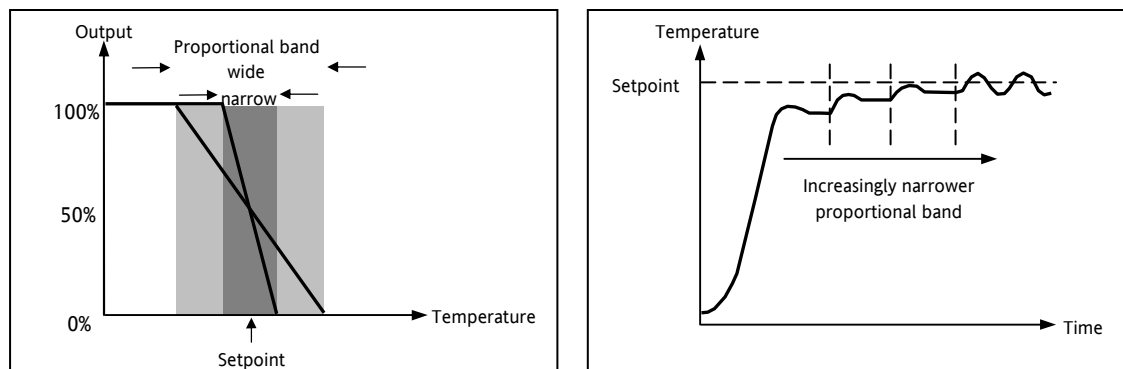

Figure 21-2: Proportional Action
The proportional band (PB), or gain, delivers an output which is proportional to the size of the error signal. It is the range over which the output power is continuously adjustable in a linear fashion from 0% to 100% (for a heat only controller). Below the proportional band the output is full on (100%), above the proportional band the output is full off (0%) as shown in Figure 21-2.
Figure 21-2 also shows the effect of narrowing proportional band to the point of oscillation. A wide proportional band results in straight line control but with an appreciable initial error between setpoint and actual temperature. As the band is narrowed the temperature gets closer to setpoint until finally becoming unstable.